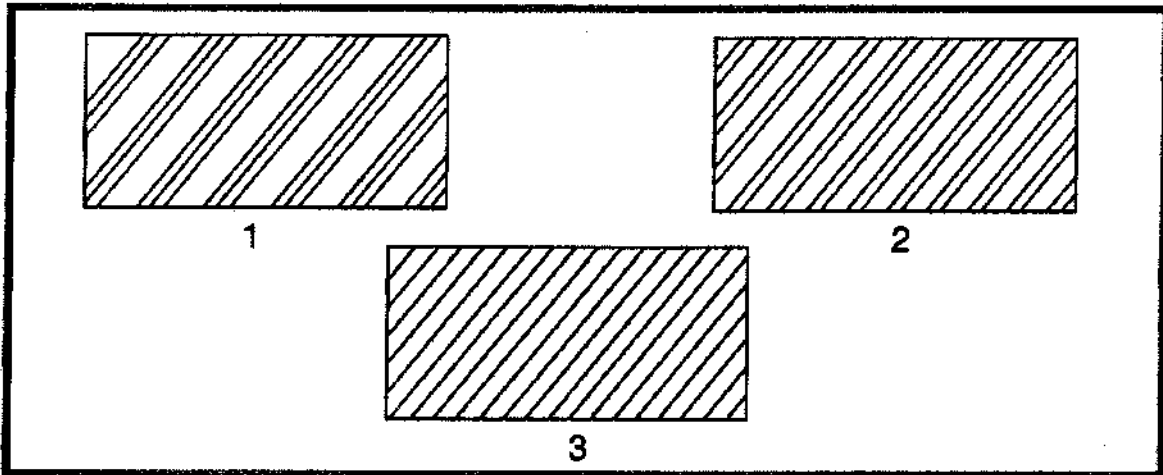

Fig. 3.8. Material Symbols.
30. (Refer to figure 3.8) Which material section-line symbol indicates cast iron ?